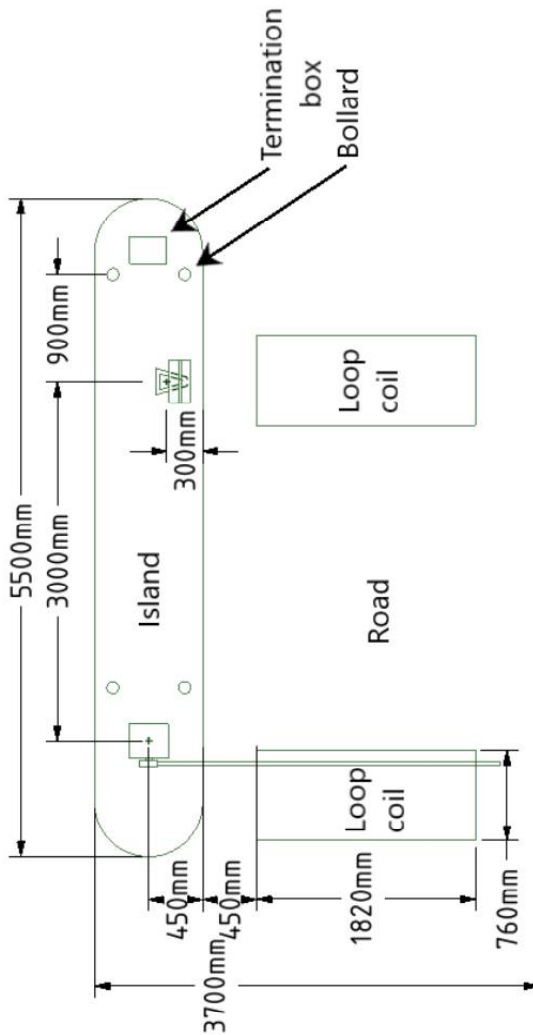

Figure 1.2: Typical parking lane layout diagram
- The installation of E50 require a lane construction which follow the standard parking requirement (see Figure 1.2) .
To install the E70 terminal, parking lane layout must be built first and follow the standard requirement. Figure 1.2 shows the typical lane layout diagram. Standard requirement of the parking lane :
Barrier gate allows access block to any vehicle from passing through. Barrier gate must have appropriate distance with E70 terminal to operate (Figure 1.2) .